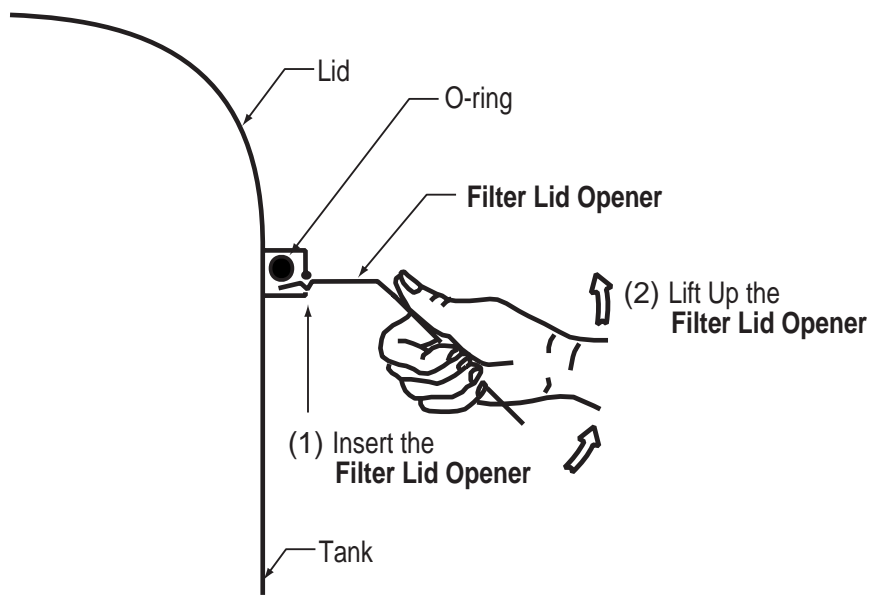

Figure 2.
4. Insert the filter lid opener as shown in Figure 2.